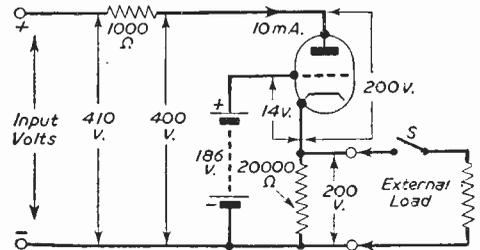
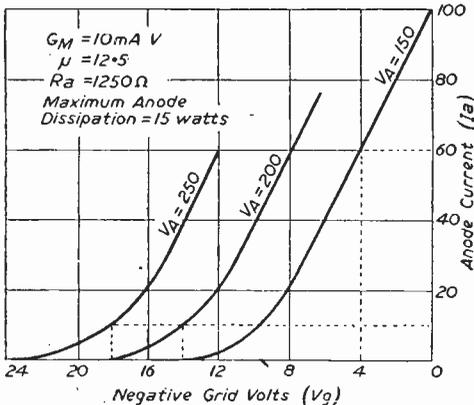

Fig. 2.—A cathode-follower stage.
Fig. 1.—Characteristics of a heavy-duty triode valve.
as the article goes on. The diagram Fig. 1, shows a set of characteristics of a heavy-duty triode having the following constants: (1) anode dissipation maximum 15 watts; (2) $g_m=10 \text{ mA/v.}$; (3) $\mu=12.5$; (4) $R_a=1,250 \Omega$. The curves, as can be seen, are anode current against grid volts for three values of anode volts. The circuit Fig. 2, shows a cathode-follower stage being fed with H.T. from a generator or power supply having an internal resistance of $1,000 \Omega$, and an output